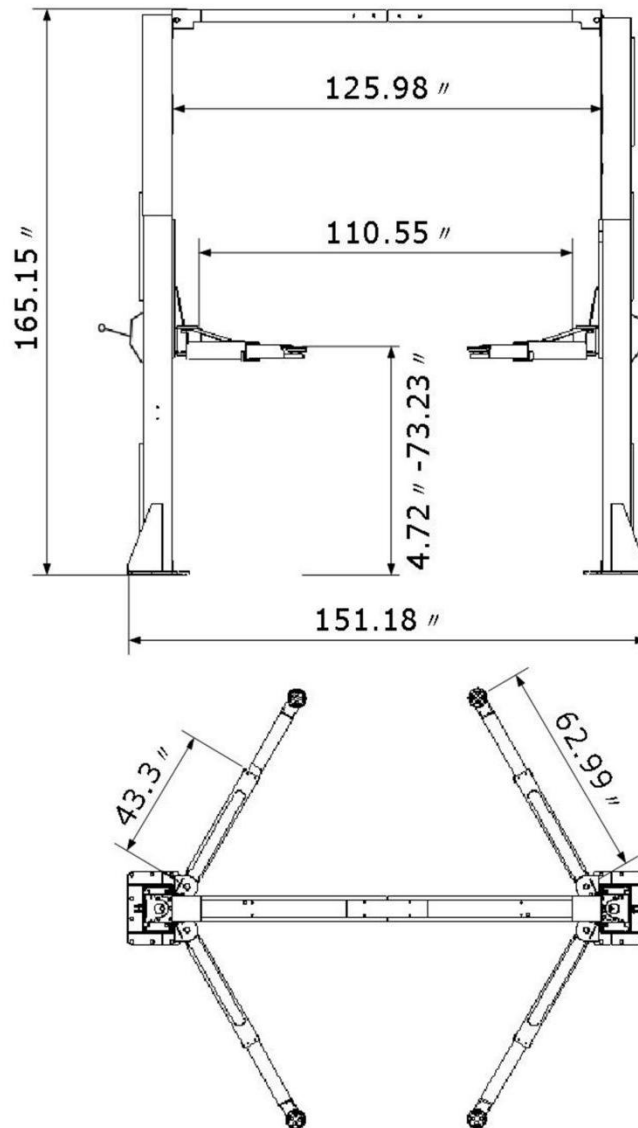

Fig 1 Dimensions
1. Adjust the distance between 2 columns as required dimensions (Fig 1).